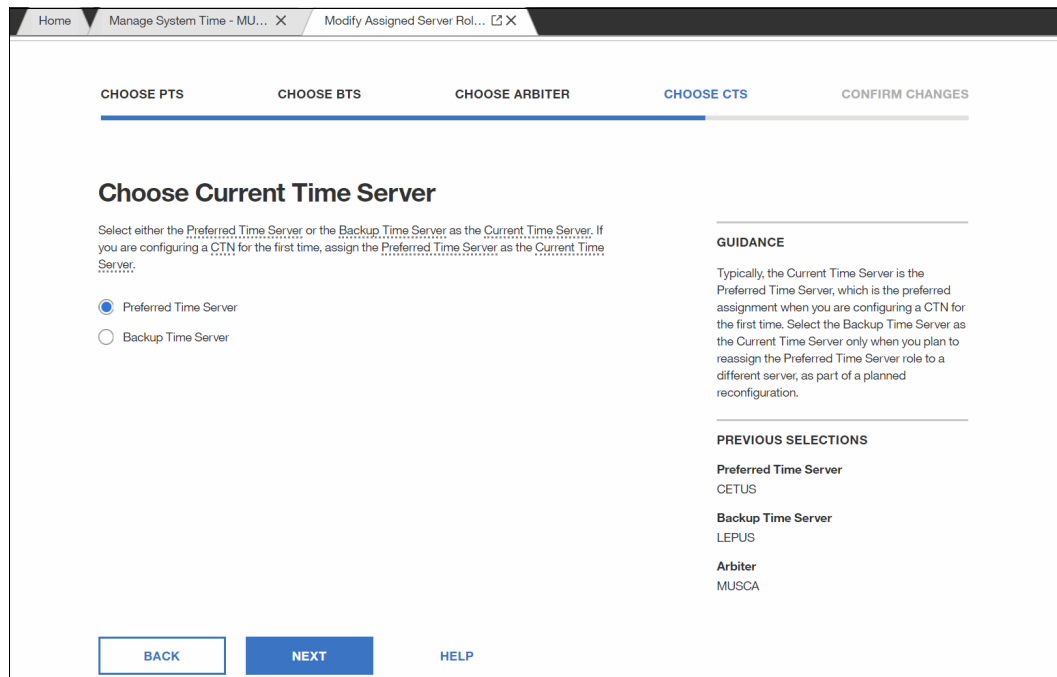

Figure 8-65 Choose Current Time Server window
- The Choose Current Time Server window opens. Select the CPC name to act as the CTS. Click **NEXT** to continue (see Figure 8-65).